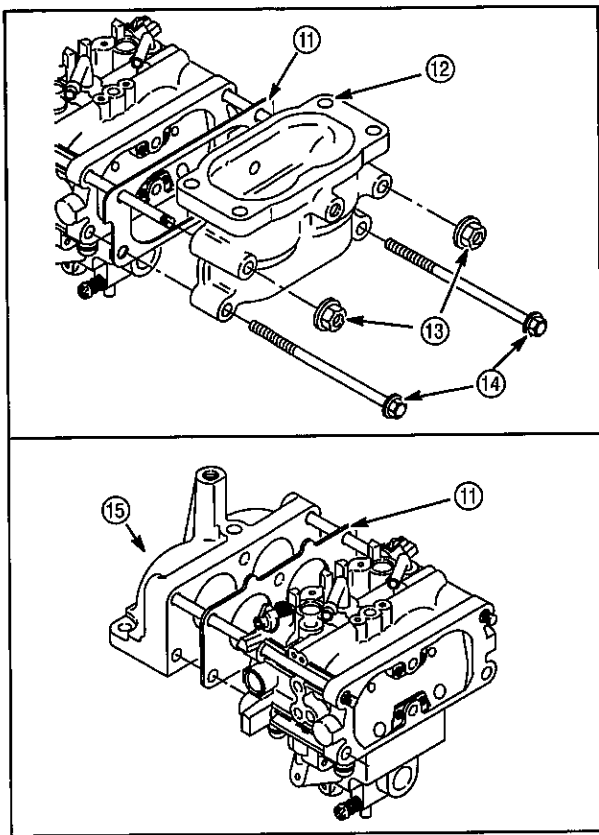

Fig. 20
8. Remove two nuts (13) and two screws (14). Separate air cleaner elbow (12) and intake elbow (15) from carburetor, Fig. 20.
9. Discard gaskets (11).